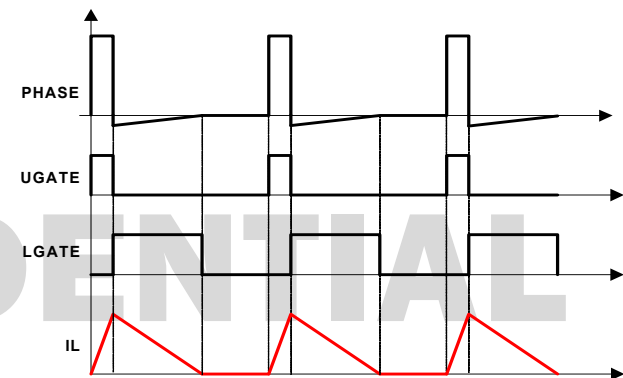

Figure 37. Diode Emulation
The R3 modulator can operate in Diode Emulation (DE) mode to increase light-load efficiency. In DE mode, the low-side MOSFET conducts when the current is flowing from source-to-drain and does not allow reverse current, emulating a diode. As shown in Figure 37 on page 48, when LGATE is on, the low-side MOSFET carries current, creating negative voltage on the phase node due to the voltage drop across the ON-resistance. The IC monitors the current by monitoring the phase node voltage. It turns off LGATE when the phase node voltage reaches zero to prevent the inductor current from reversing the direction and creating unnecessary power loss.
If the load current is light enough, as Figure 37 shows, the inductor current reaches and stays at zero before the next phase node pulse and the regulator is in Discontinuous Conduction Mode (DCM). If the load current is heavy enough, the inductor current never reaches 0A and the regulator is in CCM although the controller is in DE mode.